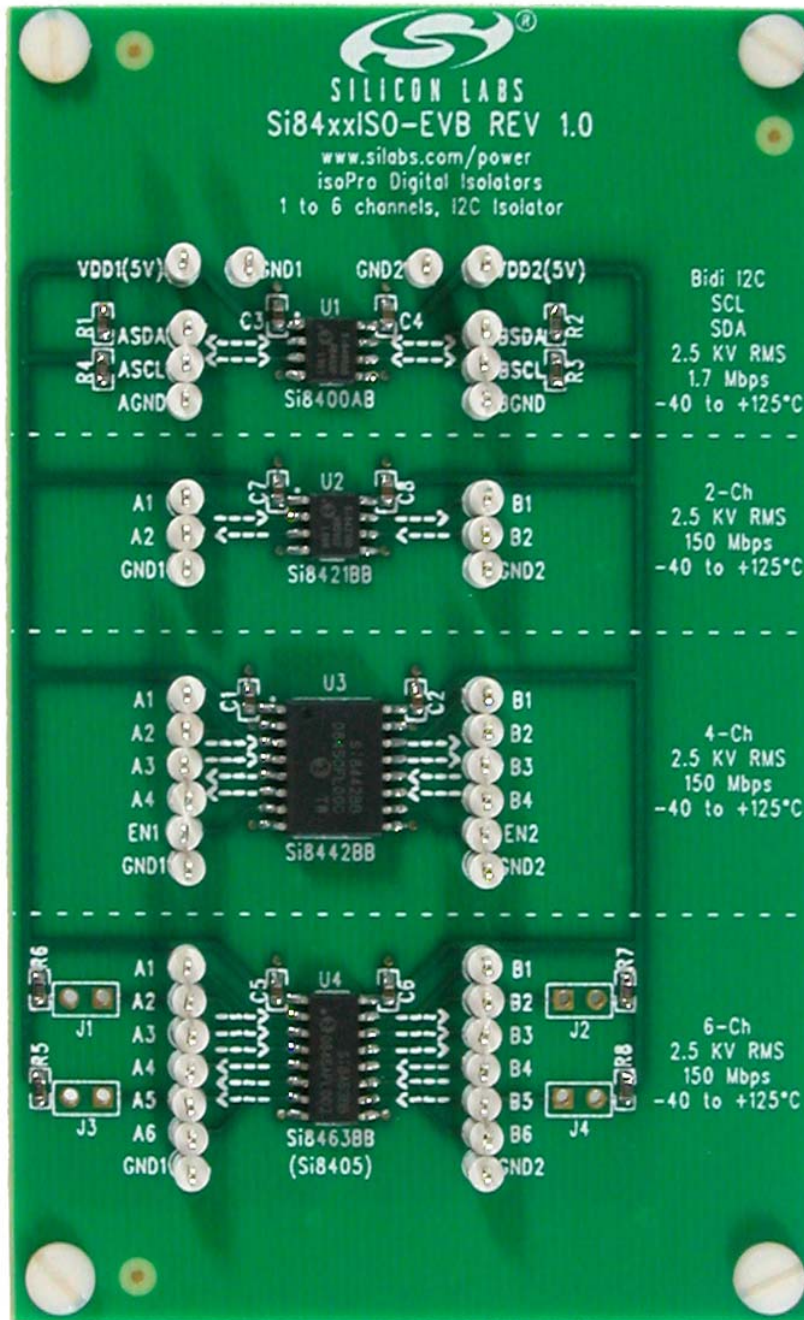

Figure 1. Si84xxISO Evaluation Board Overview
- Si84xxISO based evaluation board (Si84xxISO-EVB or Si84xx5kVISO-EVB) shown in Figures 1 and 2.
The Si84xxISO evaluation board (see Figure 1 on page 2) provides a means to evaluate the Si841x,2x,3x,4x,5x,6x digital isolator families as well as the Si8400 isolated I2C family. After power has been supplied to the board, connect a digital input signal (5 Vpeak max, with desired clock frequency up to 150 Mbps) to the desired input channel. To view the isolated channel's data transmission, connect a scope probe to the output channel of interest. There are various inputs and outputs on either side of the board depending on the device one chooses to evaluate, as indicated by the silk screen. The board can be used to measure propagation delay, pulse-width distortion, channel-channel matching, pulse-width skew, and various other parameters.